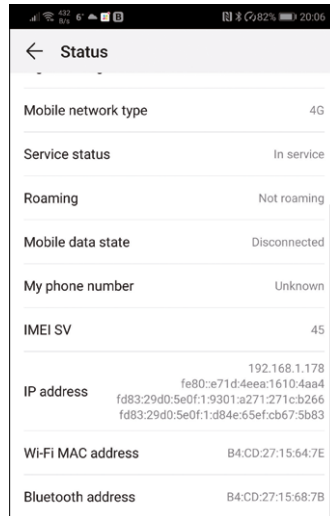

Figure 17.3 Bluetooth MAC address of the Android mobile phone
- Join all the nodes as in Figure 17.3, and click **Deploy**